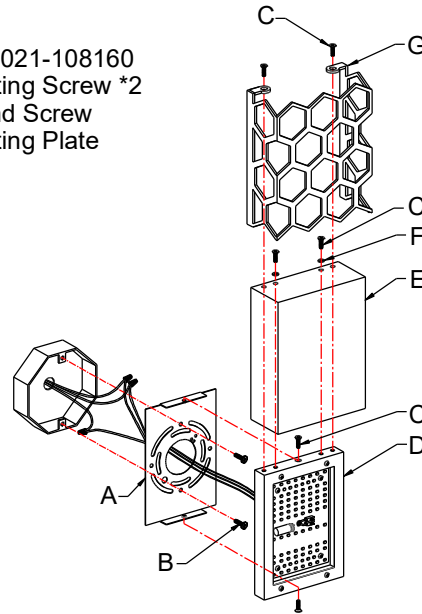

Fig. 2
## CONNECTING THE WIRES (Fig. 2)
5. Connect the electrical wires as shown in Fig. 2, making sure that all wire connectors are secured. If your junction box has a ground wire (green or bare copper), connect the fixture's ground wire to it. Otherwise, connect the fixture's ground wire directly to the mounting plate (A) using the green screw provided.